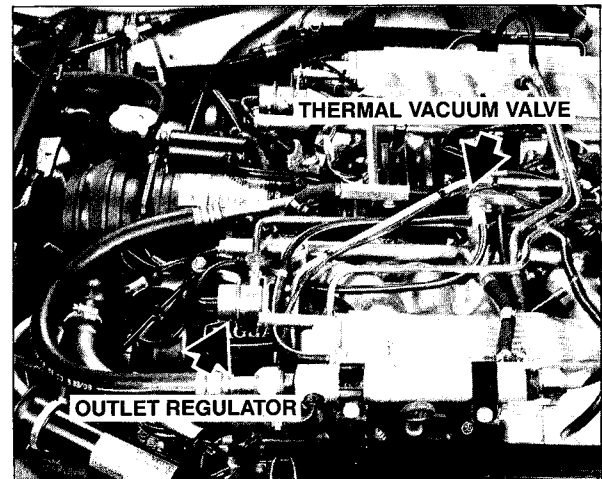

FIG 5
**NOTE: If the fuel temperature is high, the fuel pressure thermal vacuum valve (FIG 5) will be activated, causing the pressure to rise to maximum.**
If the fuel pressure is less than specification, check the outlet regulator (FIG 5); if more than specified, check the fuel return system.